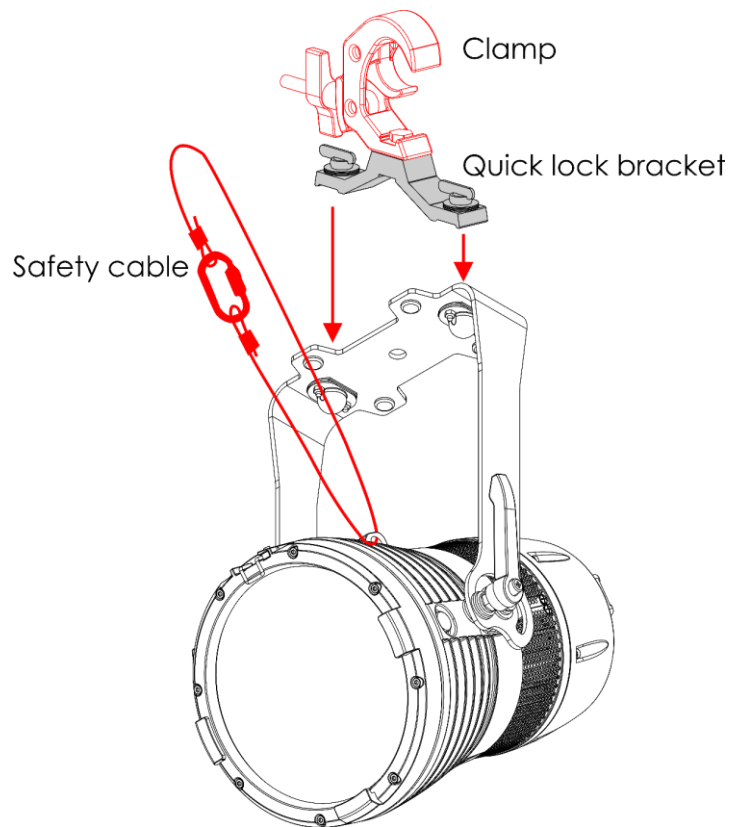

Fig. 07
- 01) Use a clamp to attach the device to the supporting structure, as shown in Fig. 07. Make sure that the device cannot move freely. The use of a quick lock bracket is optional.
- 02) Secure the device with a secondary suspension, for example a safety cable. Make sure that the secondary suspension can hold 10 times the weight of the device. If possible, the secondary suspension should be attached to a supporting structure independent of the primary suspension. Put the safety cable through the **safety eye (06)**, as shown in Fig. 07. You can use the safety cable supplied with the device.